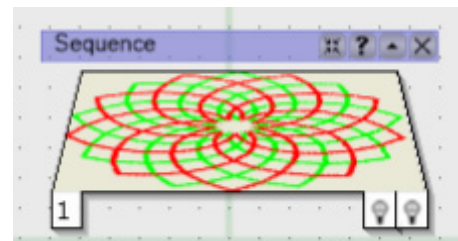

Fig. 16
6. Select the design by clicking on the plate in the *Sequence Manager* (See Fig. 16).